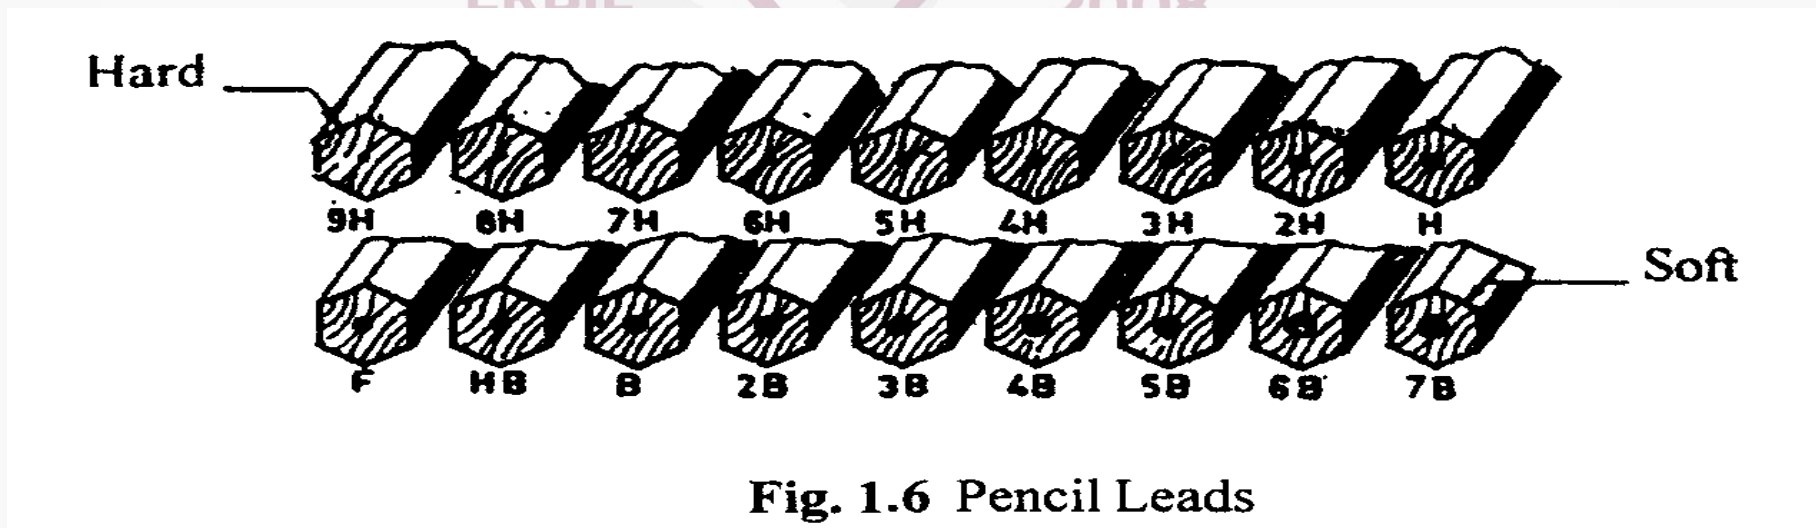

Fig. 1.6 Pencil Leads
- Pencils with leads of different degrees of hardness or grades are available in the market. The hardness or softness of the lead is indicated by 3H, 2H, H, HB, B, 2B, 3B, etc. The grade HB denotes medium hardness of lead used for general purpose. The hardness increases as the value of the numeral before the letter H increases. The lead becomes softer, as the value of the numeral before B increases (Fig.1.6)